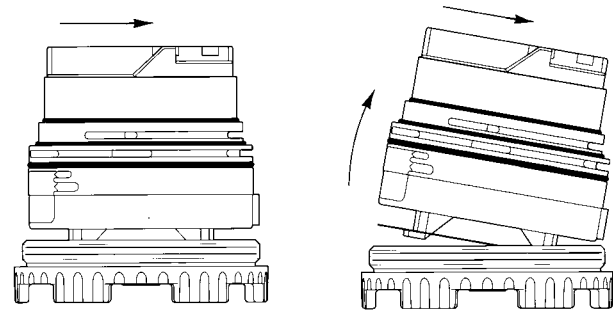

Figure 6-3. Removing the Module Final Assembly from the Module Cover
3. Remove the module final assembly from the module cover. To accomplish this, hold the cover steady, and push the module final assembly in the direction of the module cover indicating boss. At the same time, lift the opposite foot of the module final assembly out of the cover slot, as shown in figure 6-3.